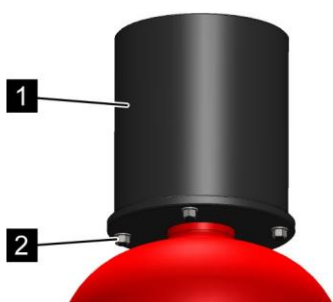

Fig. 141: Install the protective valve cap
6. ➤ Fit the protective valve cap (Fig. 141/1) onto the extinguishing agent container.
7. ➤ Screw the protective valve cap (Fig. 141/1) with the device onto the extinguishing agent container (Fig. 141/2).